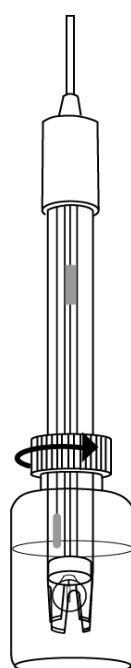

FIG. 1
1. The electrode is shipped in a plastic bottle containing a solution of pH 4 buffer and potassium chloride. The electrode should remain in the bottle until it is used. If the electrode is used infrequently, the bottle and its solution should be saved and the electrode stored in it. (see Electrode Storage Section). Take out electrode by loosening plastic top on bottle counter-clockwise and pull electrode out. Slide cap and o-ring off electrode and save (See FIGS 1&2).